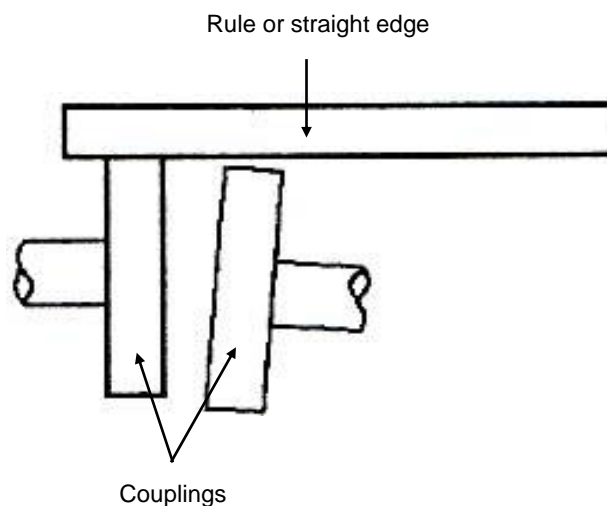

FIG 40.
- Place a square or ruler on its edge on one of the coupling flanges. (Fig 40)